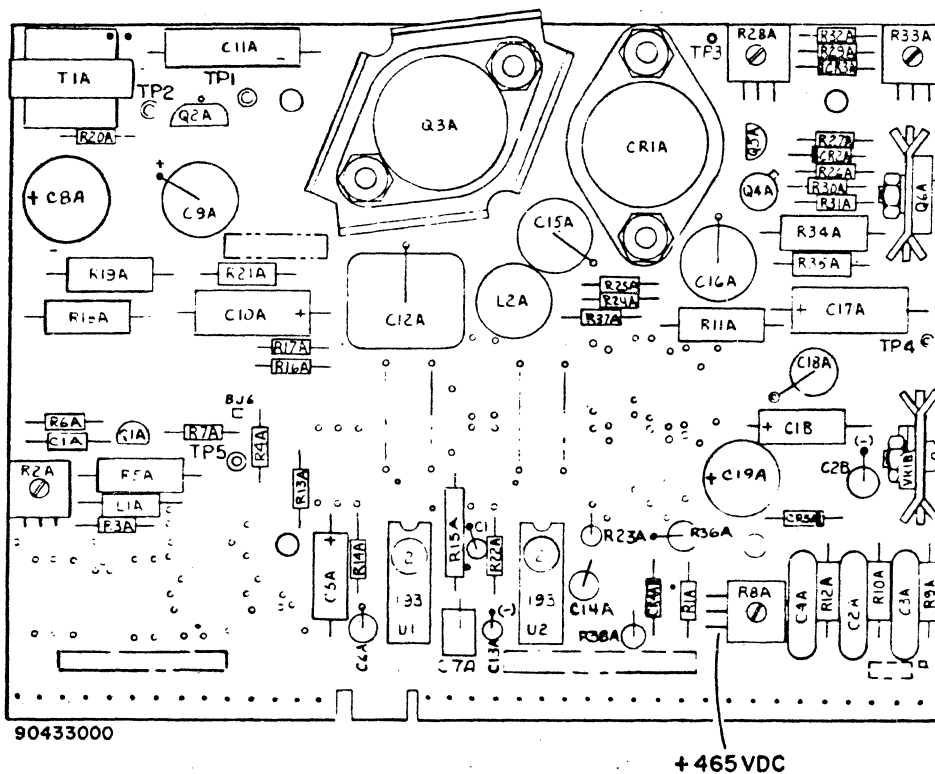

Figure CRT29. Test Point for +465 VDC
- 5) Connect red (+) lead to resistor R8A (figure CRT29).